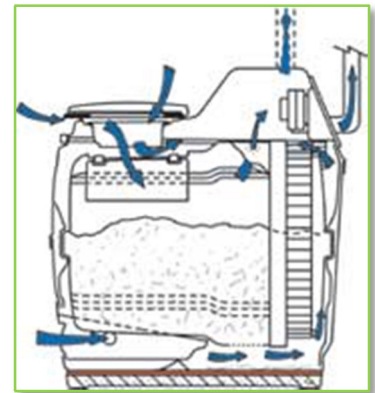

Figure 6. Direction of air flow in the composting toilet.
3. Install the vent pipe vertically, with a maximum of two 45° bends if required. Figure 6 shows the passive air flow direction in a properly installed unit.